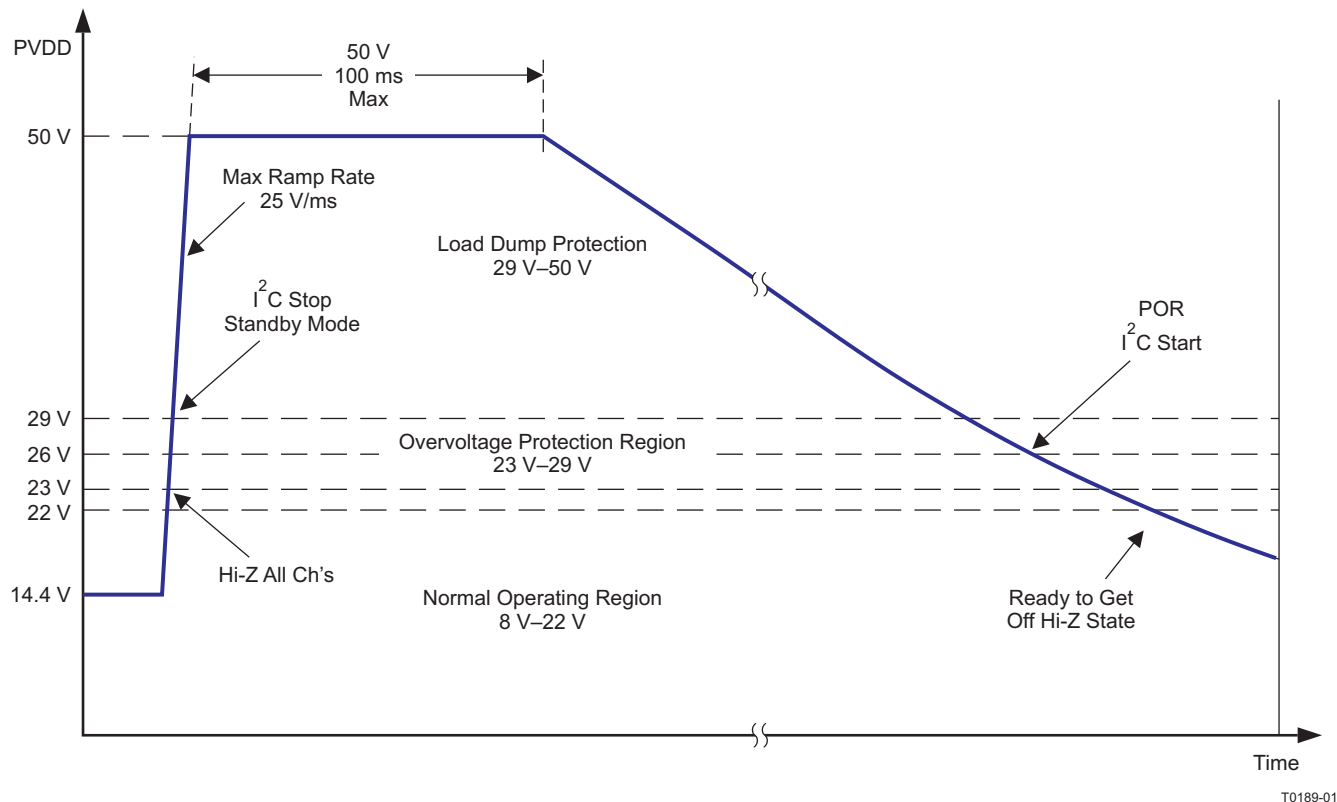

Figure 15. Voltage Operating Regions With Load Dump Transition Defined
6. **Undervoltage (UV) and Power-on-Reset (POR)**—The undervoltage (UV) protection detects low voltages on PVDD, AVDD, and CP. In the event of an undervoltage, the FAULT pin is asserted and the I2C register is updated, depending on which voltage caused the event. Power-on-reset (POR) occurs when PVDD drops low enough. A POR event causes the I2C to go into a high-impedance state. After the device recovers from the POR event, the device must be re-initialized via I2C.
7. **Overvoltage (OV) and Load Dump**—The OV protection detects high voltages on PVDD. If PVDD reaches the overvoltage threshold, the FAULT pin is asserted and the I2C register is updated. If the voltage increases beyond the load dump threshold of 29 Vdc, the device shuts down and must be restarted once the voltage returns to a safe value. After the device recovers from the ≈ load dump event, the device must be re-initialized via I2C. The TAS5414 and TAS5424 can withstand 50-V load-dump voltage spikes (see Figure 15). Also depicted in this graph are the voltage thresholds for normal operation region, overvoltage operation region, and load-dump protection region. Figure 13 shows the regions of operating voltage and the profile of the load dump event. Battery charger voltages from 25 V to 35 V can be withstood for up to 1 hour.